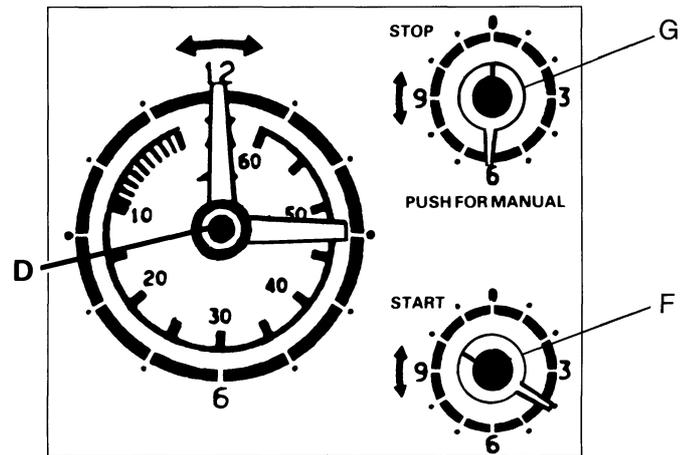

Fig.4
- i) Make sure the electricity supply is switched ON. Set the correct time of day, e.g. 3 p.m. as shown in Fig. 4.
- iii) Turn the stop time control knob (G) in either direction until the stop time pointer lines up with the time you want the food to be ready, e.g. 6 p.m. as Fig. 4.
- iv) Set the start time, by pushing in and turning the start time control knob (F) in either direction until the start time pointer lines up with the time the food is to start cooking, e.g. 4 p.m. see Fig. 4.